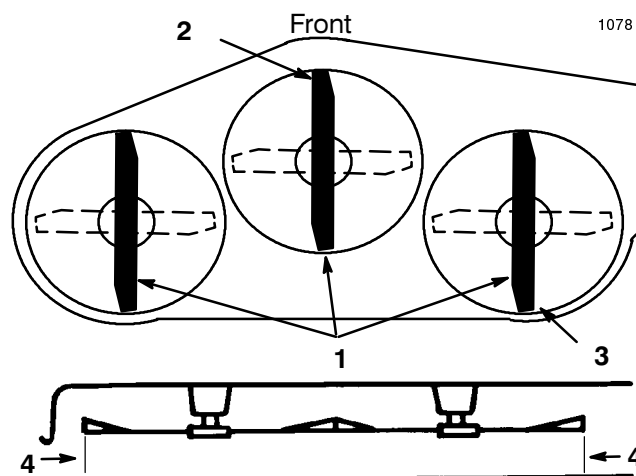

Figure 56
4. Move the height-of-cut lever (deck lift) into the "C" notch and carefully rotate the blades so they are facing front to rear (Fig. 56).
5. Measure between the tip of the front blade (Fig. 56) and the tip of the rear blade to the flat surface. If the front blade tip is not 0-5/16" (0-8 mm) lower than the rear blade tip an adjustment front mower mounting plate at axle (Fig. 56).